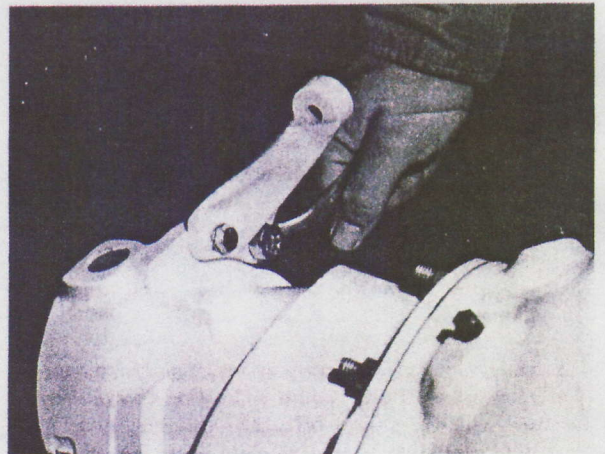

Figure 2
- 2 Attach the control lever (5) to the adapter body, using the 5/16"-18 x 1" hex head capscrews (6) and 5/6" lockwashers (7) (Figure 2).